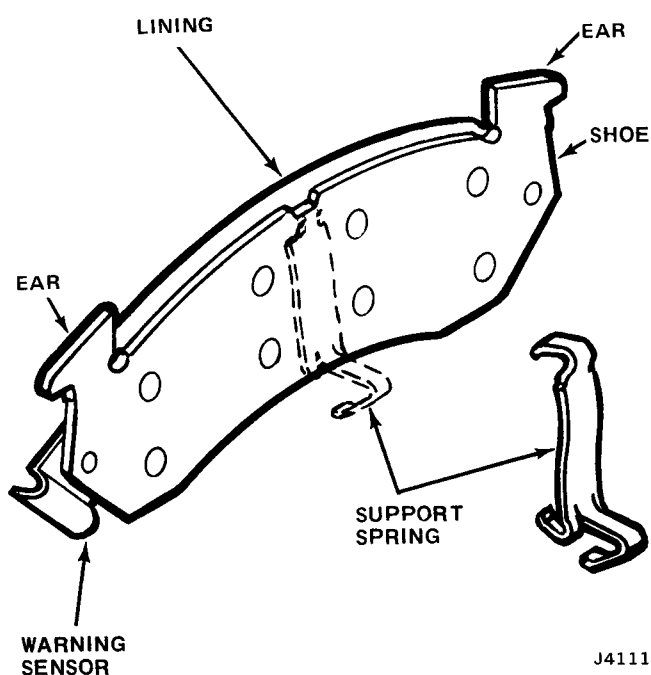

Fig. 9-31 Support Spring Installation
(8) Clean all mounting holes and bushing grooves in caliper ears. Clean mounting bolts. Replace bolts if corroded or threads are damaged.
(9) Wipe inside of caliper clean, including exterior of dust boot. Inspect dust boot for cuts, cracks, and for proper seating in piston bore. If evidence of fluid leakage is noted during inspection, caliper should be overhauled.
(10) Lubricate new bushings, sleeves, bushing grooves, and small ends of mounting bolts with silicone lubricant. Install rubber bushings in all caliper mounting ears.
(11) Install sleeves in inboard mounting ears. Position sleeves so that sleeve end facing shoe and lining is flush with machined surface of mounting ear.
(12) Install support spring on inboard shoe. Place single tang end of spring over notch in shoe (fig. 9-31).